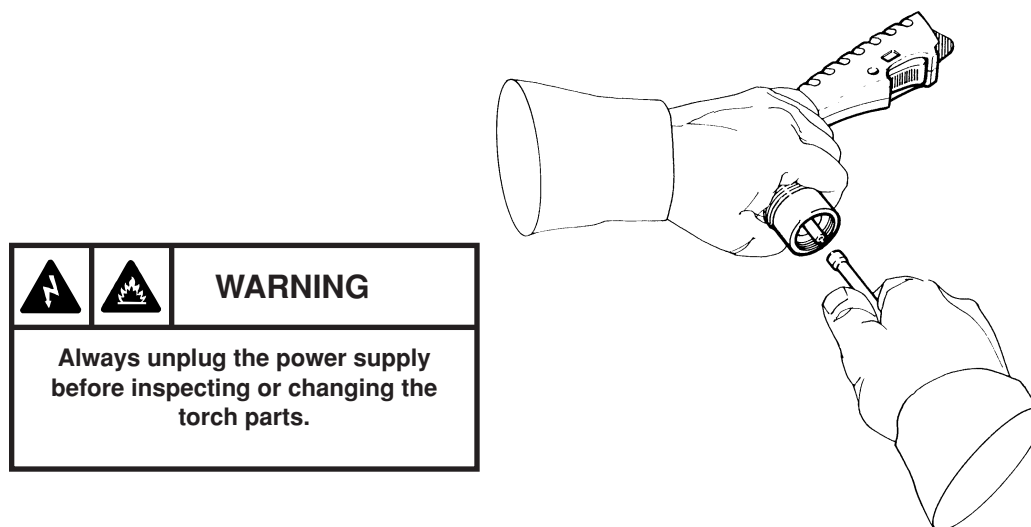

Figure 4-3 Changing the Water Tube
5. Remove and replace the water tube by using the water tube wrench (027347) supplied by Hypertherm (Fig. 4-3). **When installing water tube, do not over tighten! Snug down by hand only.**